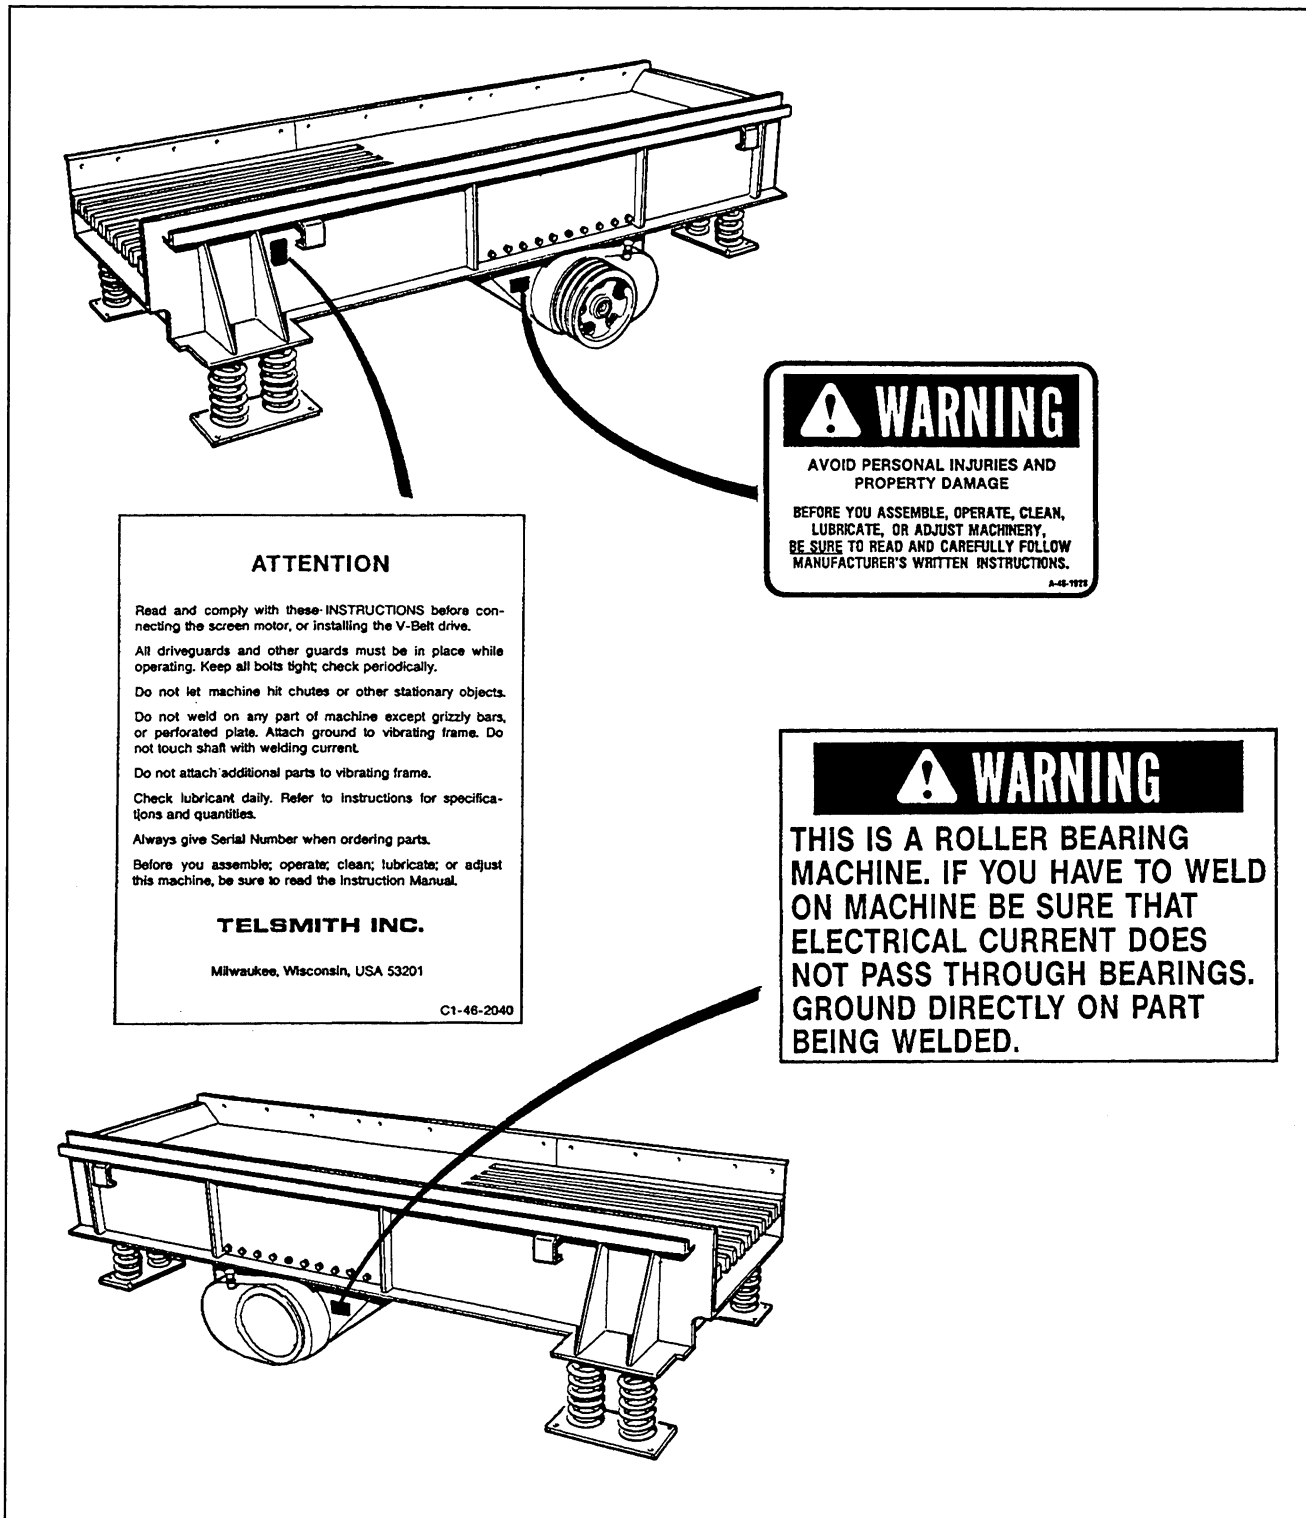

Figure 1-3. Safety Signs
**Note:** See Figure 1-3 for signs typically included on vibrating feeders. Your feeder may contain some or all of these signs. It may also include additional signs that are not shown. Actual locations may vary.